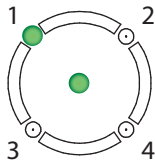

Fig. 4.3
- Once connected to the Base Station, the LED in the middle of the circle on the transceiver front illuminates to indicate it is turned on. One of the outer LEDs (numbered 1 to 4) around the circle also turns on (depending on which port the Transceiver is connected to on the Base Station, see Fig. 4.3 and Table 1). This outer LED will initially flash a Magenta, blue or yellow color (see Table 2) as the Transceiver scans for available channels before turning solid green once a channel is found (on the Base Station HOME screen, the Transceivers' indicator is yellow while scanning before turning green).